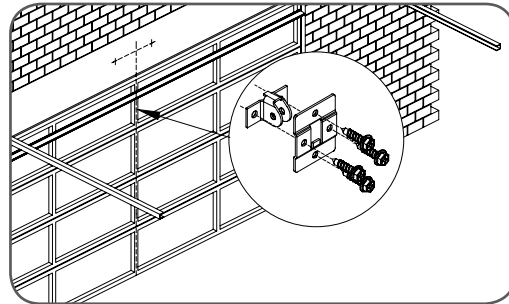

fig 16
The door bracket comes in two parts. The bottom plate with two mounting holes is used on its own for one piece doors. For sectional doors, the top plate is placed over the bottom plate and is fixed with four (4) screws (**Fig. 16**).
- Mount the door bracket, or bracket assembly, on the door's centre line one-third down the top panel (**Fig. 16**) using M6 or equivalent screws (not supplied),